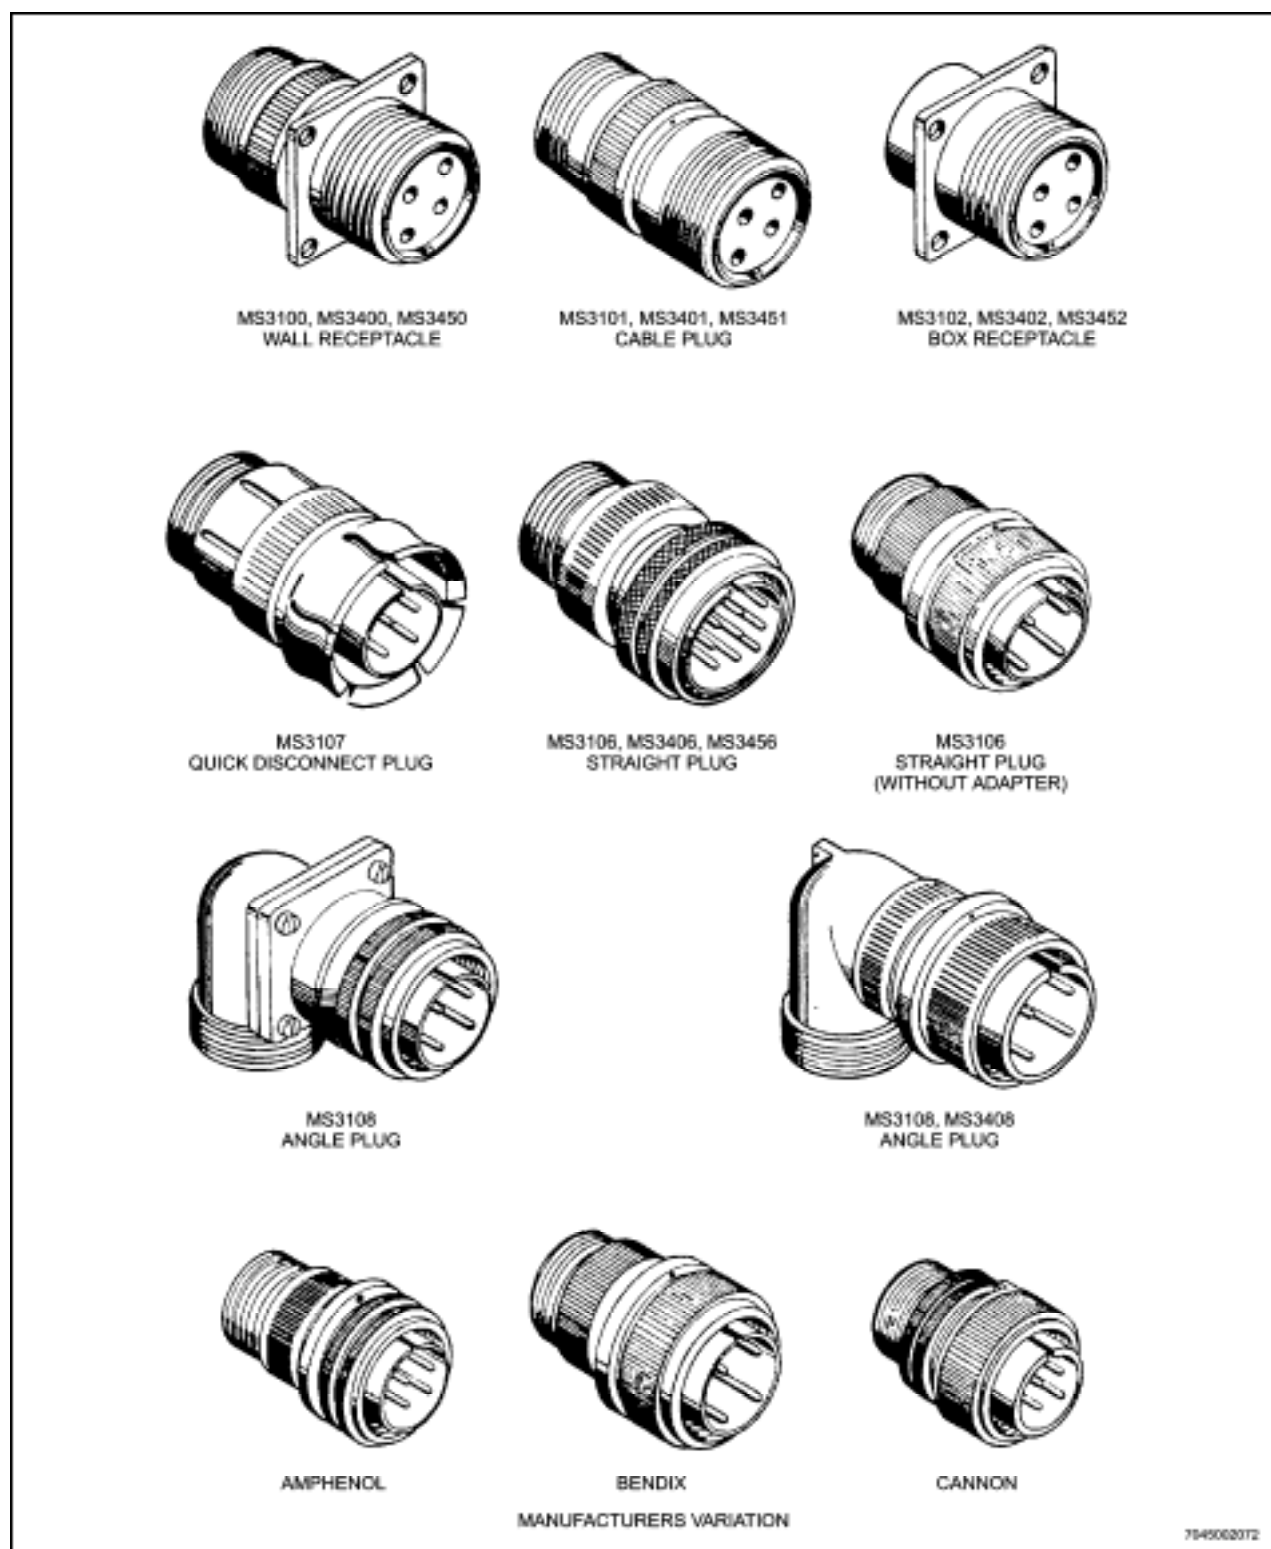

Figure 10-42 Typical AN(MS) Connectors
86. See Figure 10-42 for typical illustrations of AN/MS type connectors. Refer to Figure 10-43 for insert arrangement. For the purpose of ordering MIL-DTL-5015 connectors, the part numbers of connectors and component parts are given as follows: